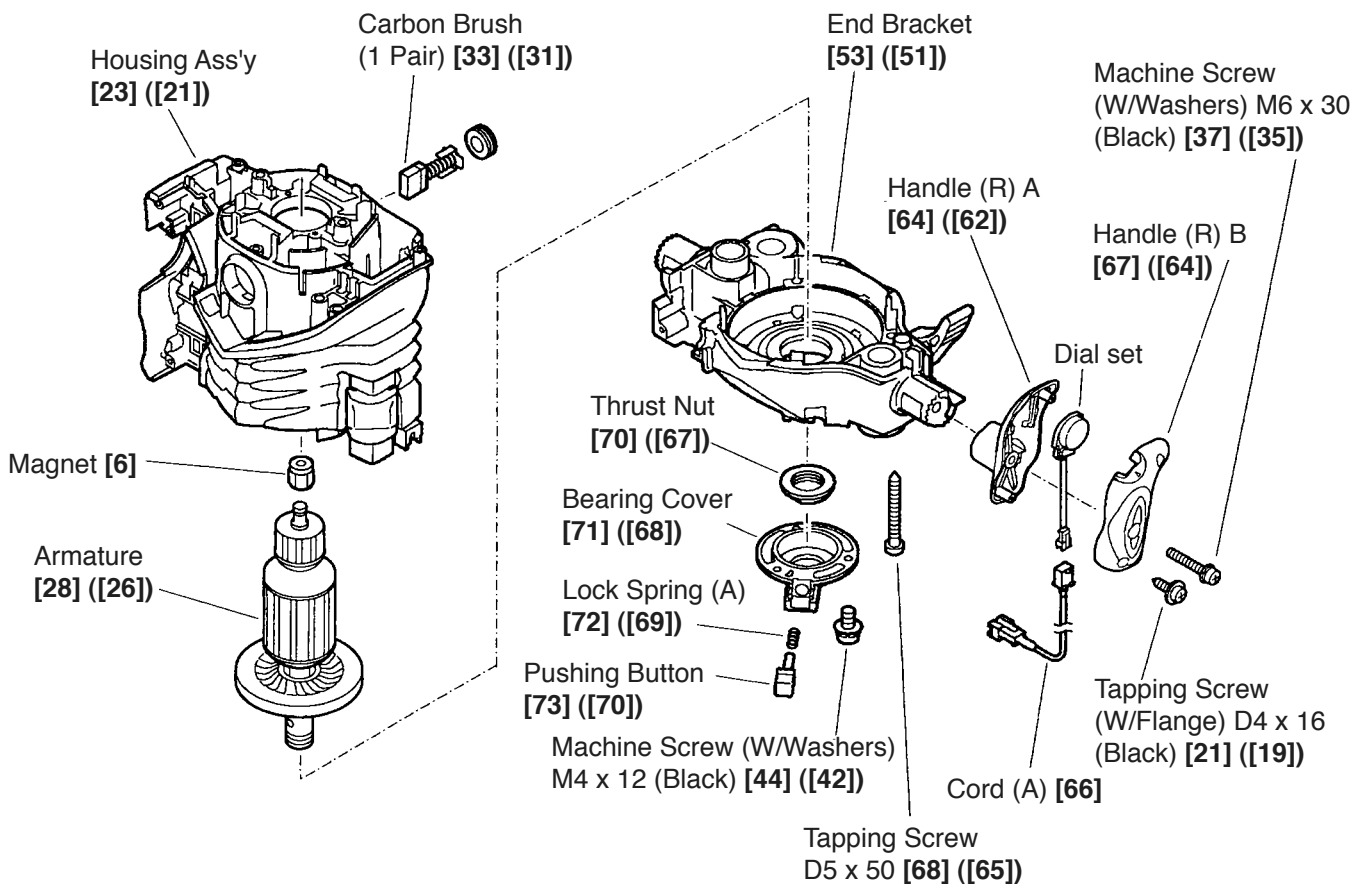

Fig. 6
- (5) Remove the Armature [28] ([26]) and the End Bracket [53] ([51]) (Fig. 6)
- Loosen and remove the two Tapping Screws (W/Flange) D4 x 16 (Black) [21] ([19]) and the Machine Screw (W/Washers) M6 x 30 (Black) [37] ([35]), and remove Handle (R) B [67] ([64]).
- Disconnect Cord (A) [66] from the Controller Circuit Dial Set [5] and remove Handle (R) A [64] (Model M 12V2 only).
- Loosen and remove the three Machine Screws (W/Washers) M4 x 12 (Black) [44] ([42]), then remove the Bearing Cover [71] ([68]), Pushing Button [73] ([70]) and Lock Spring (A) [72] ([69]).